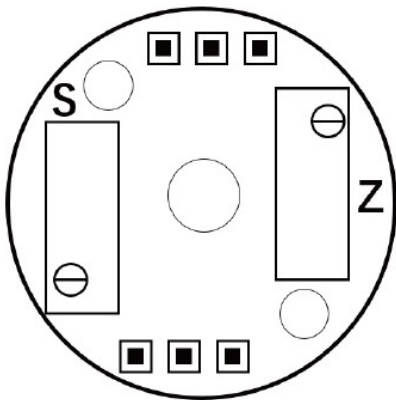

Figure 1. Position of the Z potentiometer on the circuit board
3. Turn the Z potentiometer on the circuit board with the screwdriver (see Figure 1) until the output signal reaches zero.